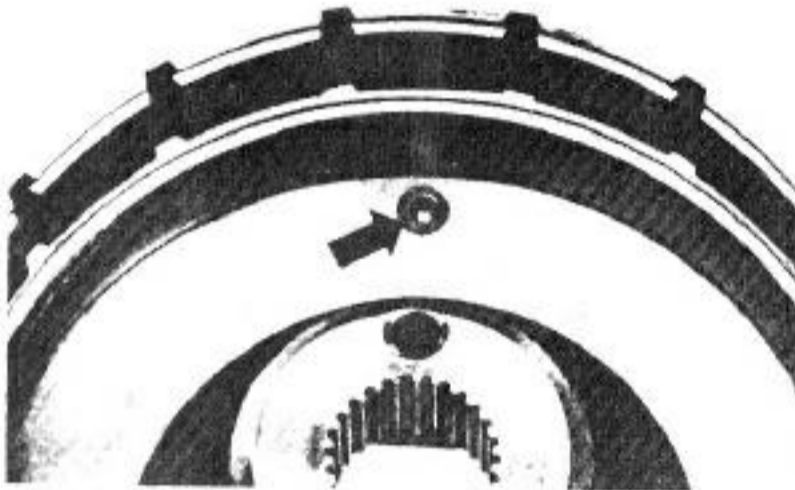

Fig. 10-18. Ball valve (arrow) in clutch drum.
1. Shake the drum. If the drilling shown in Fig. 10-18 is clear, you will hear the ball valve rattle.